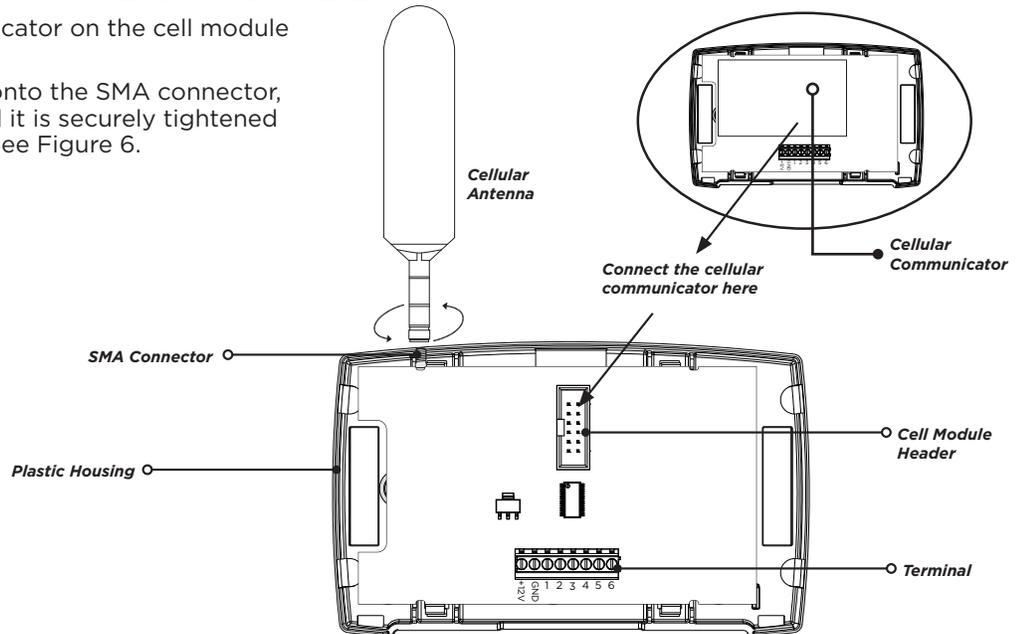

Figure 6: Connecting the Cellular Antenna
2. Place the cellular antenna onto the SMA connector, then twist the antenna until it is securely tightened on to the remote module. See Figure 6.